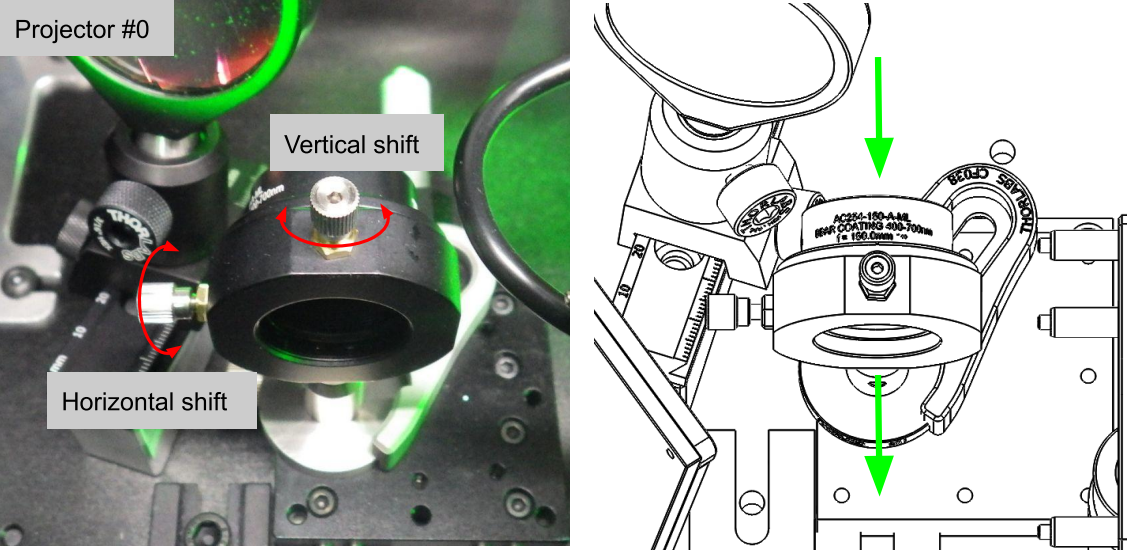

Fig. 12. Projector 1 adjuster and PC screen of USB camera
- If the LED1 (Green color in this manual) grid is too far off from the target, you will need to move the Green grid by adjusting lens position as shown in Fig. 12.